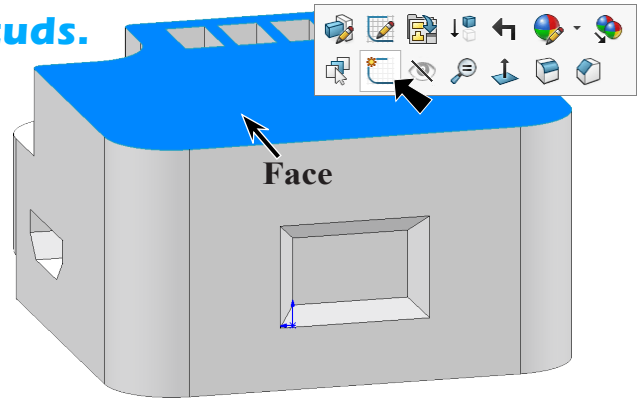

Fig. 56
Step 1. Click the **top face** and click **Sketch**  on the context toolbar, **Fig. 56**.